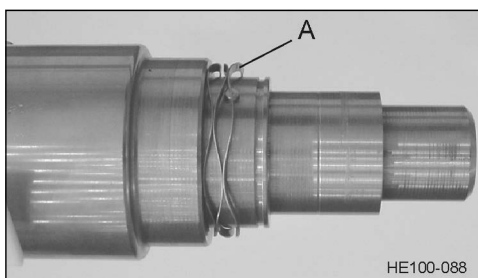
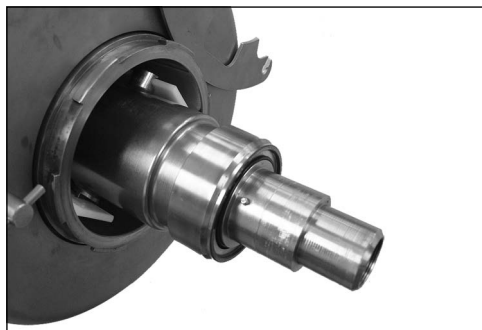
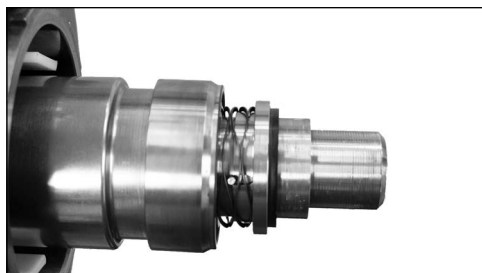

Figure 76 - Install Wavy Spring
Figure 77 - Install Seal Body
Figure 79 - Double Mechanical Seal Installed
1. The primary seal body is held in place on the mutator shaft by two seal drive pins. Each one should be 5/32" (+/- 0.015") above the stub shaft surface. The secondary seal body is held in place by one seal drive pin. It should be 3/32" (+/-0.015") above the stub shaft surface. It is extremely important that these dimensions be maintained. If the pins are too high, the seal will jam; if they are too low, the body will rotate. See Figure 76 and Figure 79
2. Place the wavy washer spring (See Figure 76, Item A) on the shaft. Place the seal body (Figure 77) or one-piece seal on the shaft, aligning the slots with the seal drive pins.
4. Assemble the Secondary Seal Wavy Washer on the shaft, if required (See Figure 79).